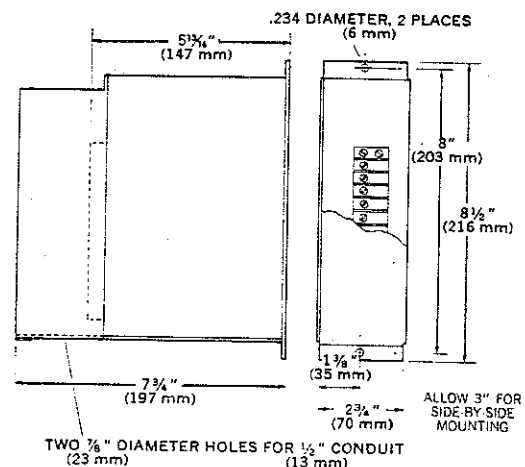

Figure 2-1A Mounting Dimensions Single Unit Enclosure
**2-1 Mounting** — Mounting dimensions for the single unit enclosure are shown in Figure 2-1A. Multiple unit enclosures are shown in Attachment A. Multiple unit enclosures are designed for 19 inch rack or for surface mounting (See Attachment A). Single unit enclosures may be surface mounted into a wall or panel. Before mounting, make certain the mounting surface is secure. All units may be mounted with number 10 screws.